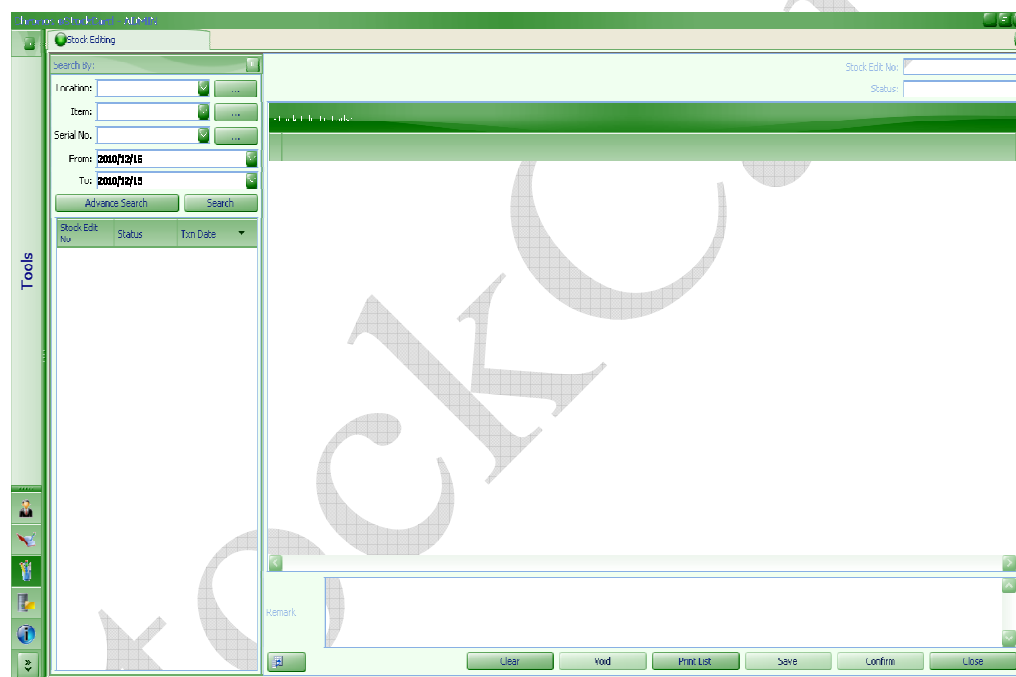

Fig. 83
1. Path: Tools > Stock Edit > Editing (Fig. 83)